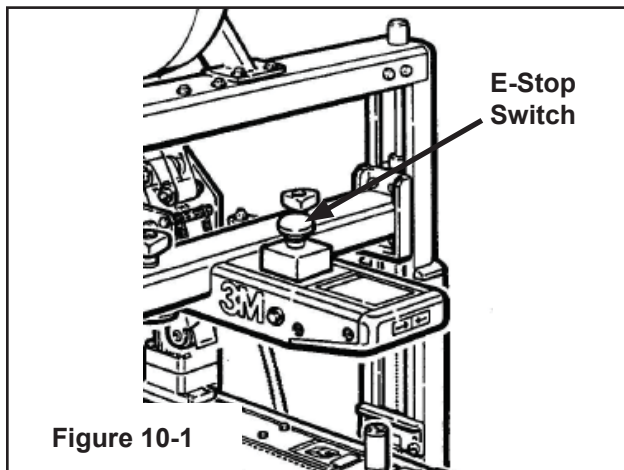

Figure 10-1
The machine electrical supply can be turned off by pressing the latching emergency stop switch. To restart machine, rotate the emergency stop switch clockwise to release the switch latch. Restart machine by Pushing the On/Off switch to the Off (O) position and then to the On (I) position (**Figure 10-1**).